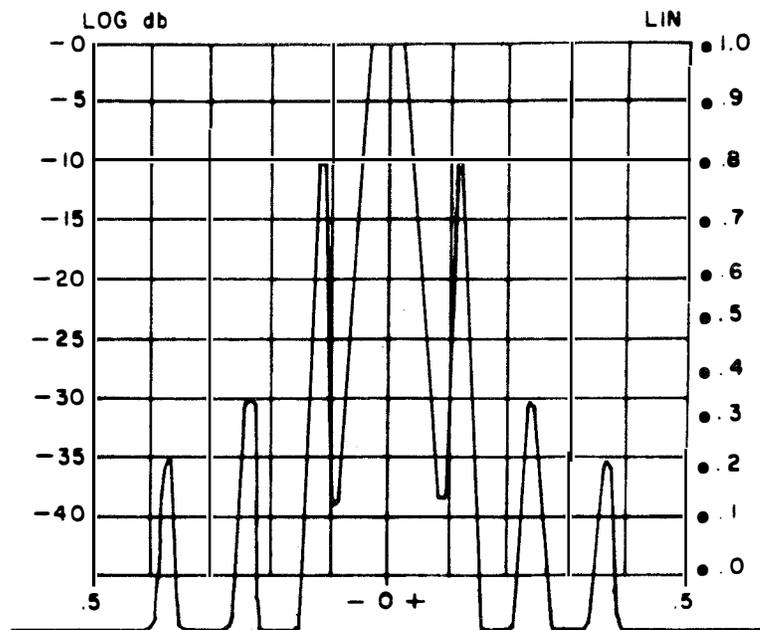

FIGURE 3-4
c. Figure 3-4 shows 3mc signal, heavy HUM modulation produces many side pips; the first side pip represents the 60 cycle HUM modulation, the second side pip shows 120cps components, and the third side pip (right hand side) present 180cps components (3rd harmonic of 60cps).